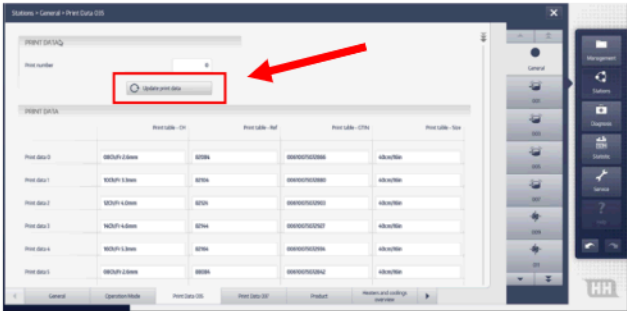

Figure 4
- 4. Press the update data button (Figure 4)